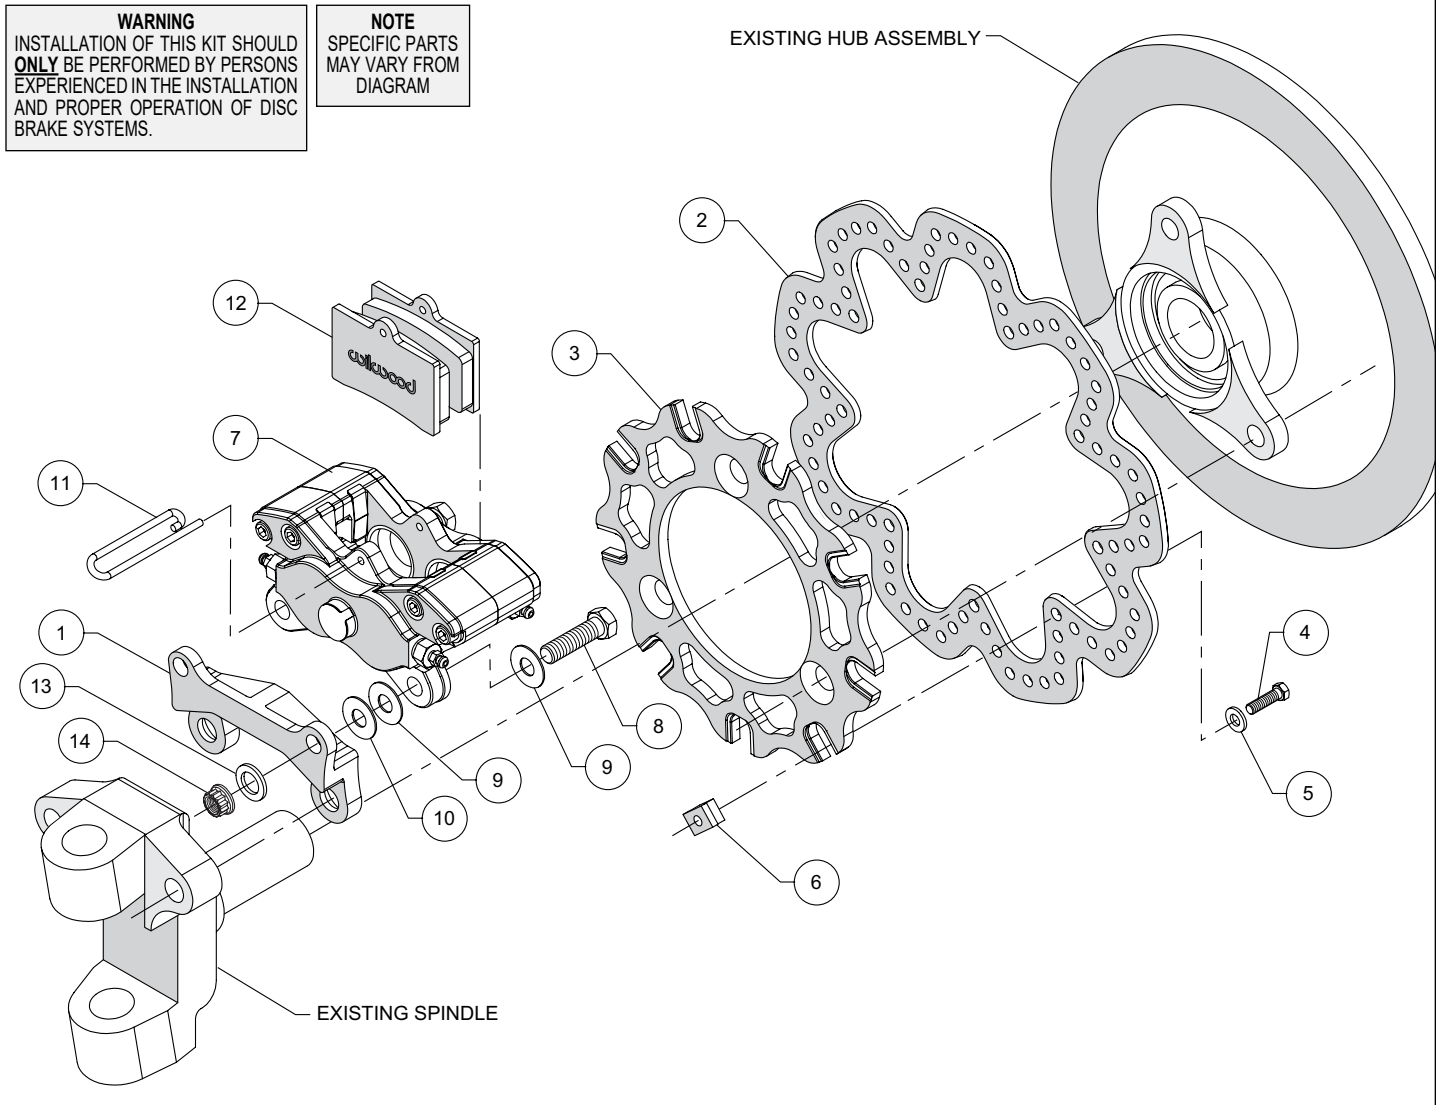

Figure 1. Typical Installation Configuration
**NOTE:** Numbers in parenthesis refer to the parts list and Figure 1 on the preceding pages. **CAUTION:** All mounting bolts must fully engage threaded holes.
- Orient the caliper mounting bracket assembly (1), as shown in Figure 1, and install using customer furnished hardware and red *Loctite*® 271. The bracket must fit squarely against the side of the spindle body. Inspect for interference from machining ridges, burrs, etc.
- Mount the rotor adapter (3) with the notched t-nut slots facing inboard to the rotor (2) using bolts (4), and washers (5) slid through rotor holes from the outboard side and into the t-nut (6). Apply red *Loctite*® 271 to the bolt threads and torque bolts (4) to 120 **in-lb**.
- Orient the caliper (7), as shown in Figure 1, and install on bracket using bolts (8), .035" shim washers (9), .063" washers (13), and locknuts (14), Figure 1. Initially place one .035" shim washer (9) between the caliper (7) and bracket (1). Temporarily tighten locknuts (14) and check that the rotor (2) is centered in the caliper. If not, adjust by adding or subtracting .035" shim washers (9) and/or .016" shims (10) between the bracket and caliper. Always use the same amount of shims on each of the two mounting bolts. Once the caliper alignment is correct, torque locknuts to 30 ft-lb.
- Remove the pad pin retainer (11) from the caliper (7). Slide the brake pads (12) into place. They should install easily without interference. Reinstall the pad pin retainer (11).